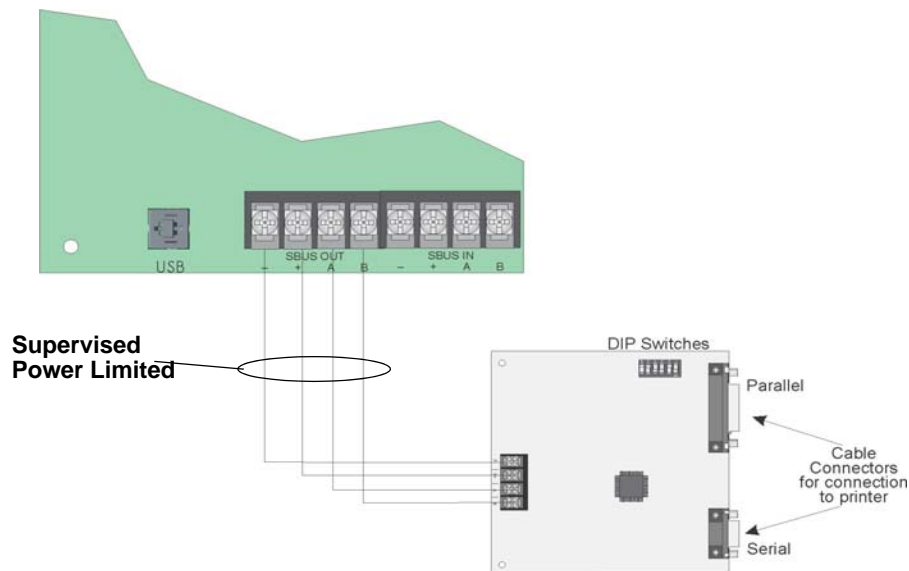

Figure 4-33 5824 Connection to the Panel
2. Connect the 5824 to the panel as shown in Figure 4-33.
5. Connect a printer to the 5824 as shown in Figure 4-33.